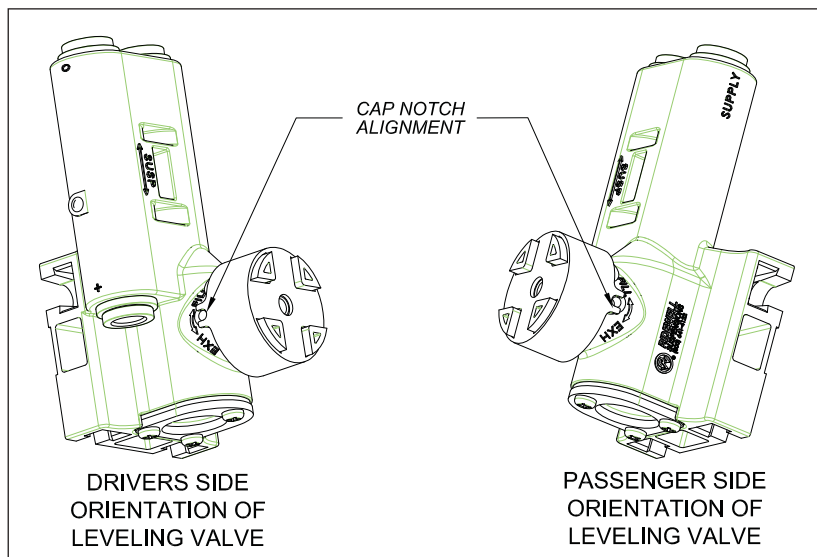

Figure 1
7. Check that leveling valves are properly orientated. (See **Figure 1**).
- b. Leveling valves position & orientation (see **Figure 1**, page 4)